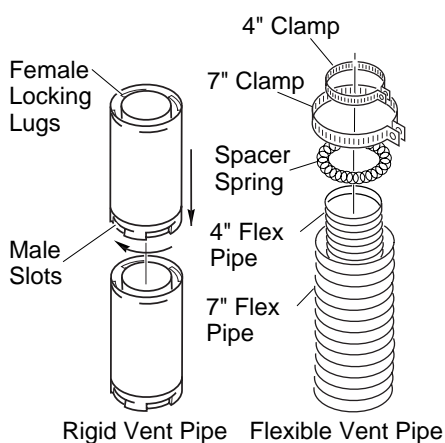

Figure 12 - Vent Pipe Connections
Twist-lock Procedure: The female ends of the pipes and fittings have four locking lugs (indentations). These lugs will slide straight into matching slots on the male ends of adjacent pipes and fittings. (All connections must be sealed with high temperature silicone sealant as specified in the second warning on page 7.) Push the pipe sections together and twist one section clockwise approximately one-quarter turn until the sections are fully locked. See Figure 12, page 9. **Note:** Horizontal runs of vent must be supported every three feet. Use wall straps for this purpose.
Flexible vent pipe must be installed with spacer springs every 12". See Figure 12, page 9. All connections must be clamped tightly and sealed with high temperature silicone sealant as specified in the second warning on page 7.
2. Assemble the desired lengths of pipe and elbows necessary to reach from the fireplace flue up through the firestop. All connections must be sealed with high temperature silicone sealant as specified in the second warning on page 7. Be sure all pipe and elbow connections are fully twist-locked (see Figure 12, page 9).